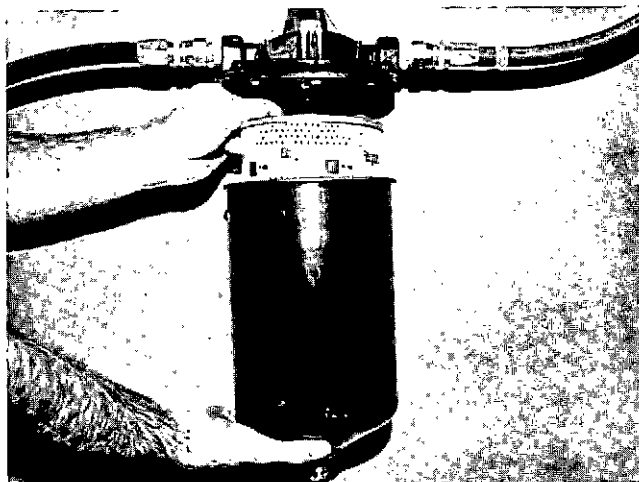

Fig. 2-16 (V11910) Installing replaceable fuel filter element
2. Loosen nut(s) at top of fuel filter(s). Take out dirty element, clean filter case(s) and install new element(s). Fig. 2-16.